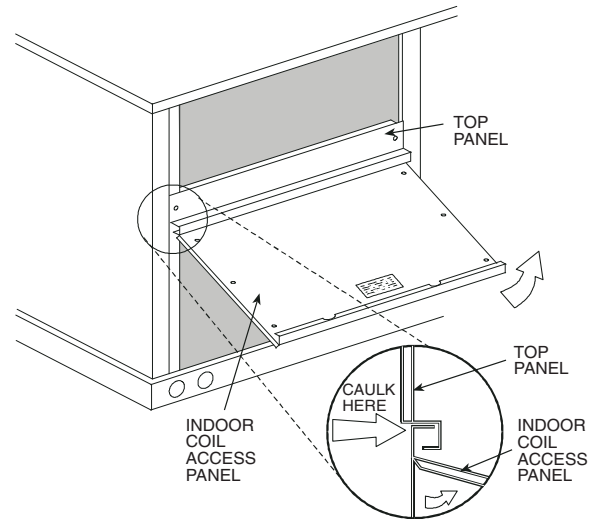

**Fig. 17 — Indoor Coil Access Panel Relocation
1. The indoor coil access panel will be used as the top of the hood. Remove the screws along the sides and bottom of the indoor coil access panel. See Fig. 17.